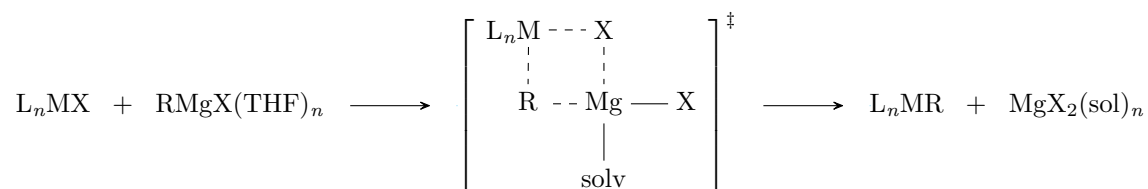

Figure 3.7: The general form of transmetallation.
- Stille (Sn): Requires either a closed (such as in Figure 3.7) or open (as from a standard nucleophilic attack) transition state.